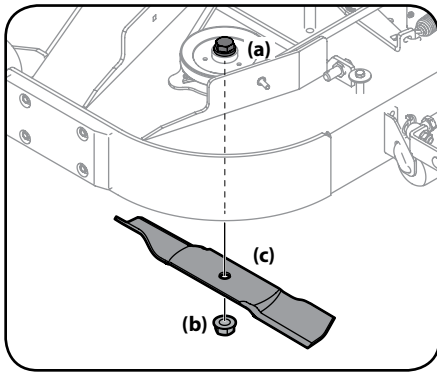

Figure 4-18
4. Use a 1-1/8" socket wrench on the pulley side of the hex screw (a) See Figure 4-18.